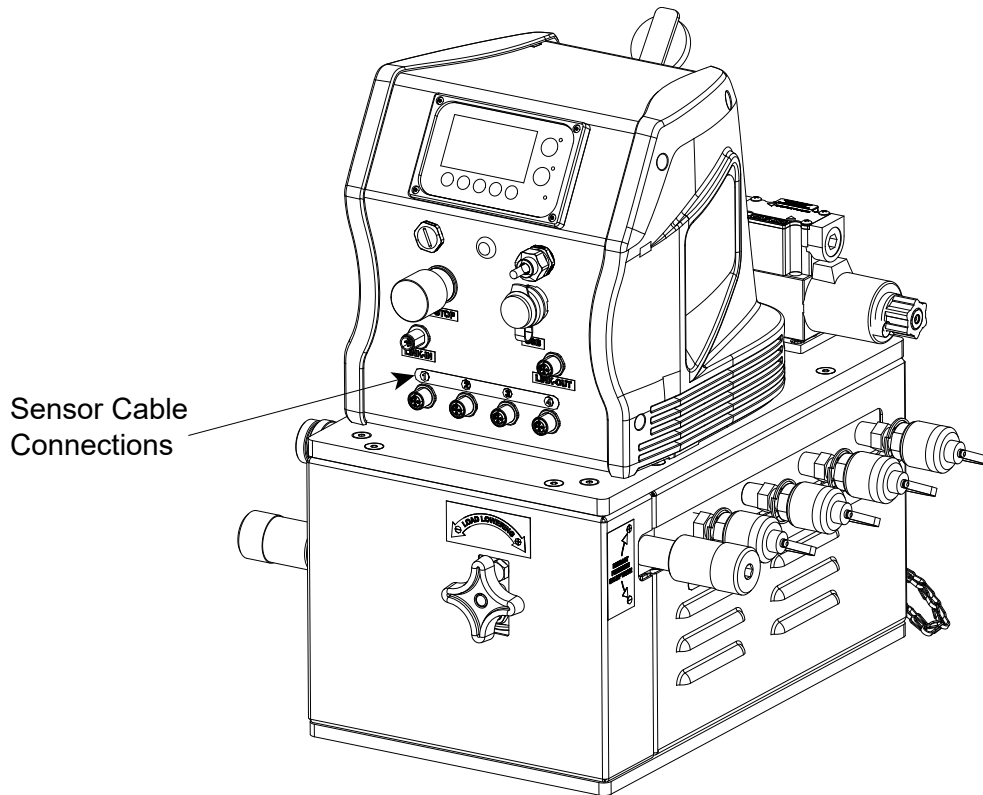

Fig. 7: Displacement Sensor Installation
- A. Attach the displacement sensors close to each lifting point. Preferably with the displacement sensors magnet base right side down (shown in figure 7). If hanging upside down on the load the sensor could come loose and damage the sensor if dropped.